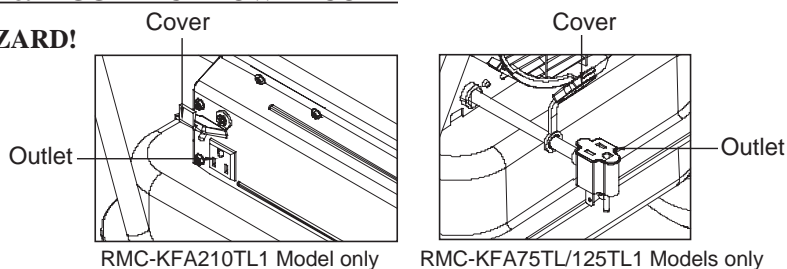

Figure 9. Electric Outlet
4. Turn “THERMOSTAT CONTROL Knob” to desired setting (setting range : 40°F ~ 110°F) and push “BTU control Switch” to desired level “High or LOW” (See Figure 9.)